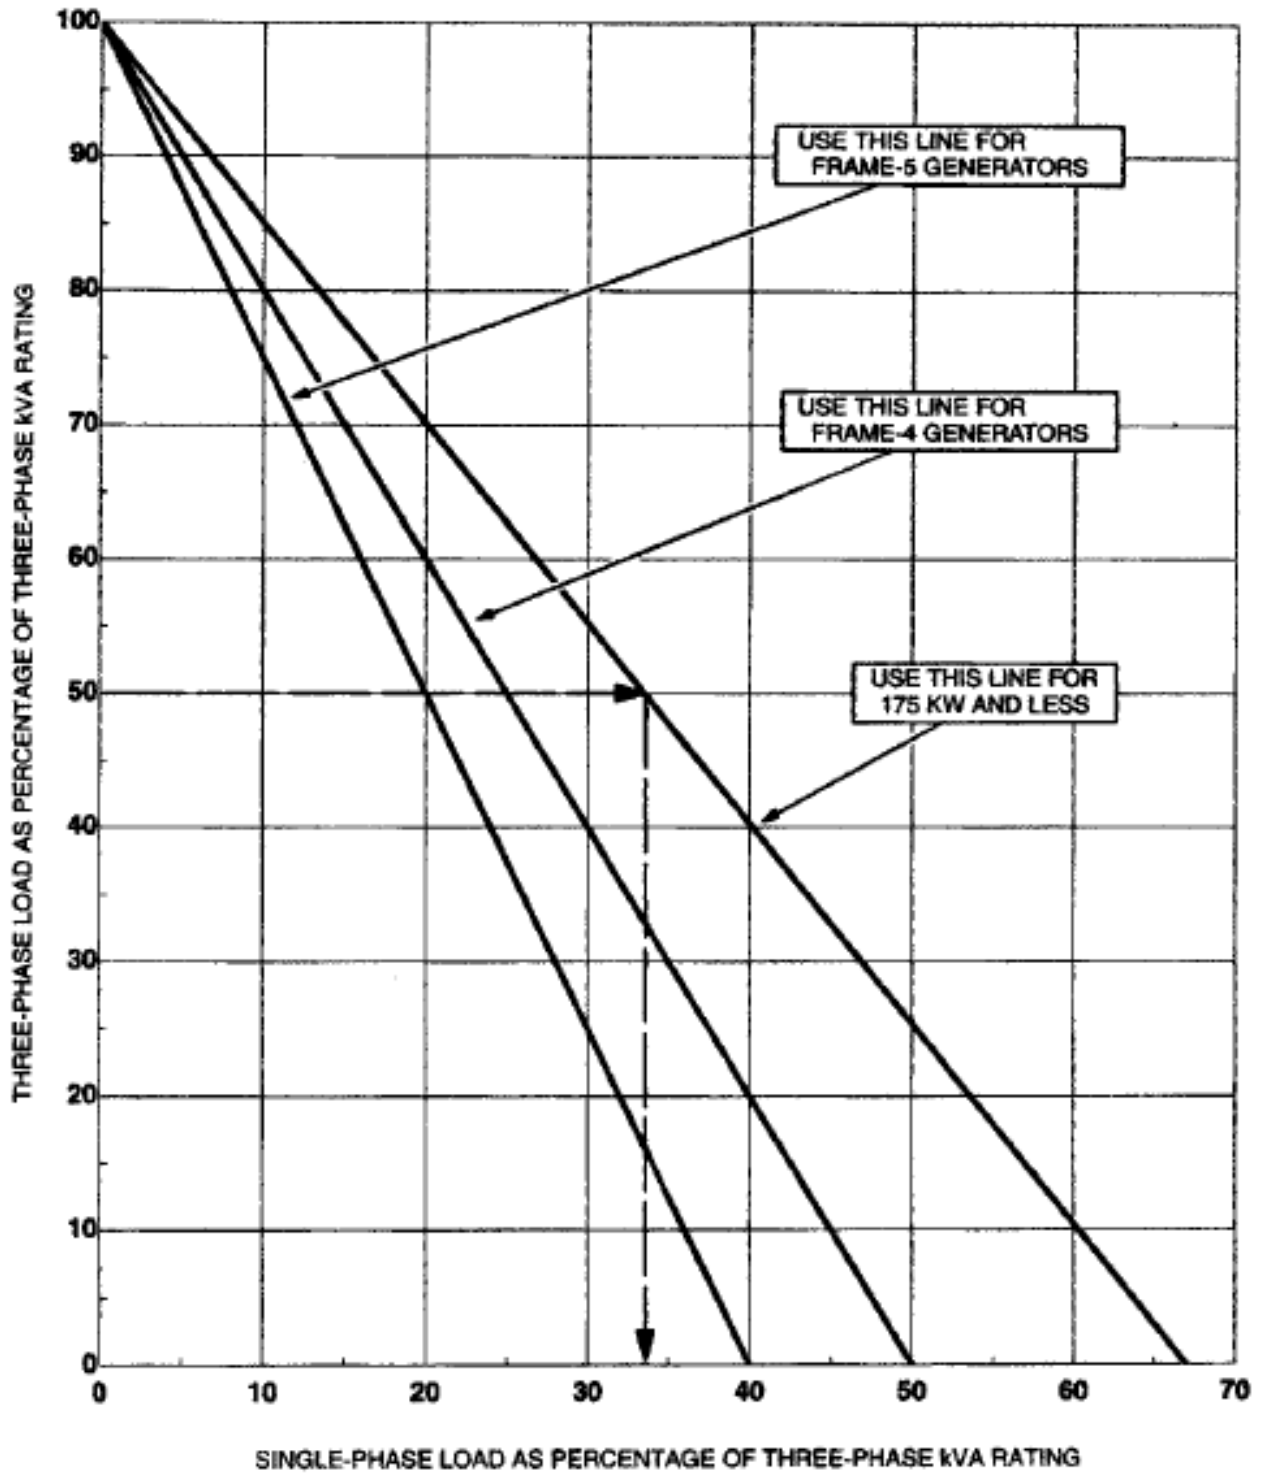

FIGURE 41. ALLOWABLE UNBALANCED SINGLE-PHASE LOAD
Single-phase loads should be distributed as evenly as possible between the three phases of a three-phase generator set in order to fully utilize the rated capacity (kVA and kW) of the set and to limit voltage unbalance. Figure 41 can be used to determine the maximum permissible percentage of unbalanced single-phase load, as illustrated by the example calculation.
Generally, the larger the generator set, the lower the percentage of single-phase power that can be taken. Figure 41 includes single-phase percentage lines for **GeneratorJoe** intermediate- size Frame-4 and Frame-5 generators. Confirm the frame size by referring to the applicable Alternator Data Sheet referenced by the generator set Specification Sheet. For generator sets rated more than 500kW, load unbalance should not exceed 10 percent.
2. Find the percentage of allowable single-phase load, as shown by the arrows in Figure 41. In this case, it is approximately 34 percent of the three-phase rating.